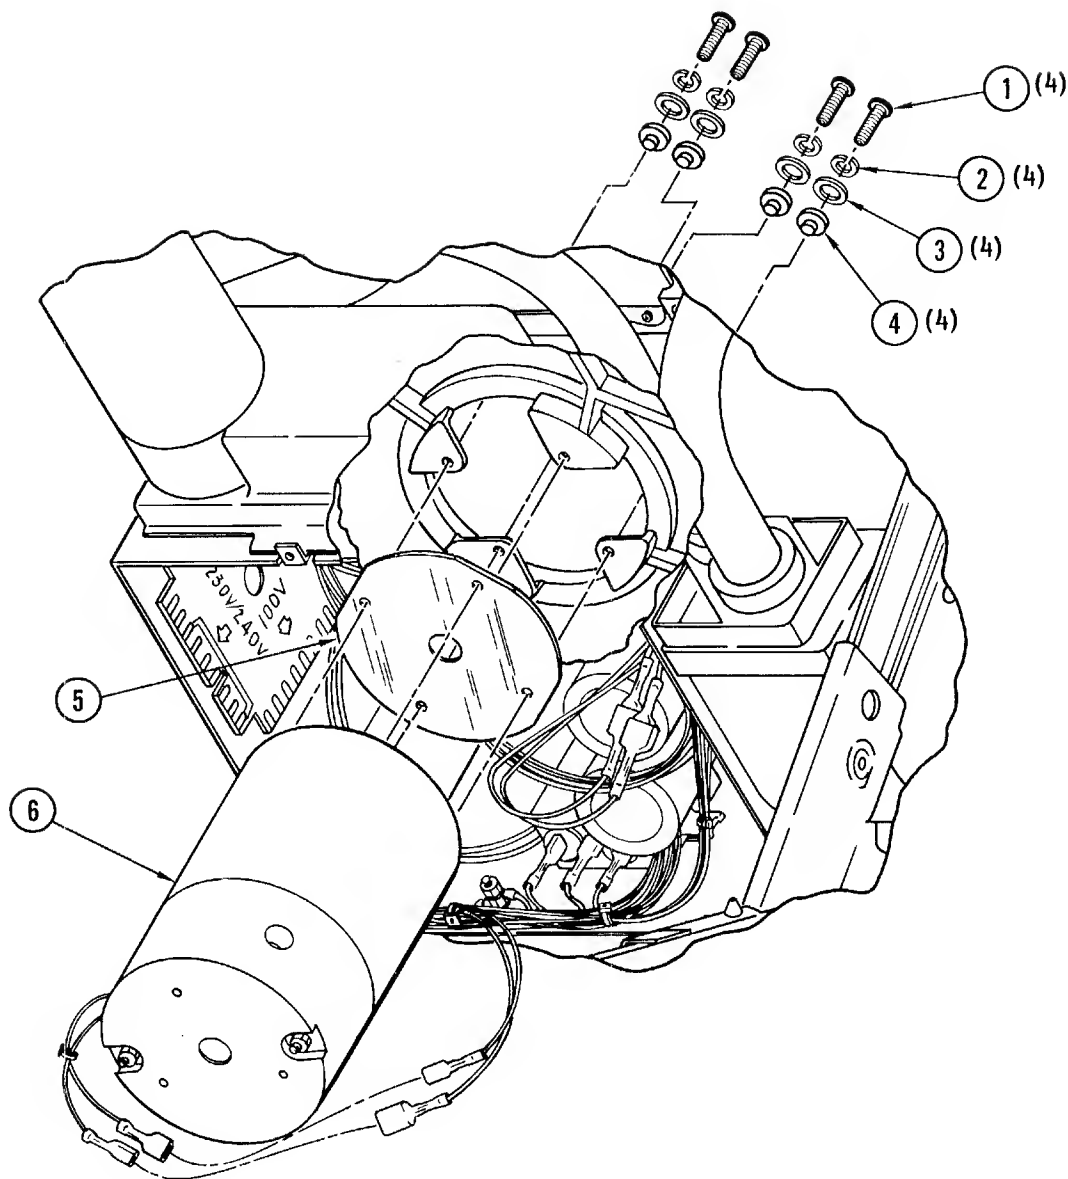

Figure 4-26. Takeup Motor Assembly
4-40. Removal, Replacement and Adjustment (Figure 4-26). Place the transport in service access position, in accordance with paragraph 4-3, and remove and replace the takeup motor assembly in accordance with the following procedure:
- f. Remove four screws (1, Figure 4-26), lockwashers (2), flatwashers (3), shoulder washers (4), and takeup motor (6) out of drive, noting orientation of motor. Save attaching parts, including insulator (5), for use in assembly.